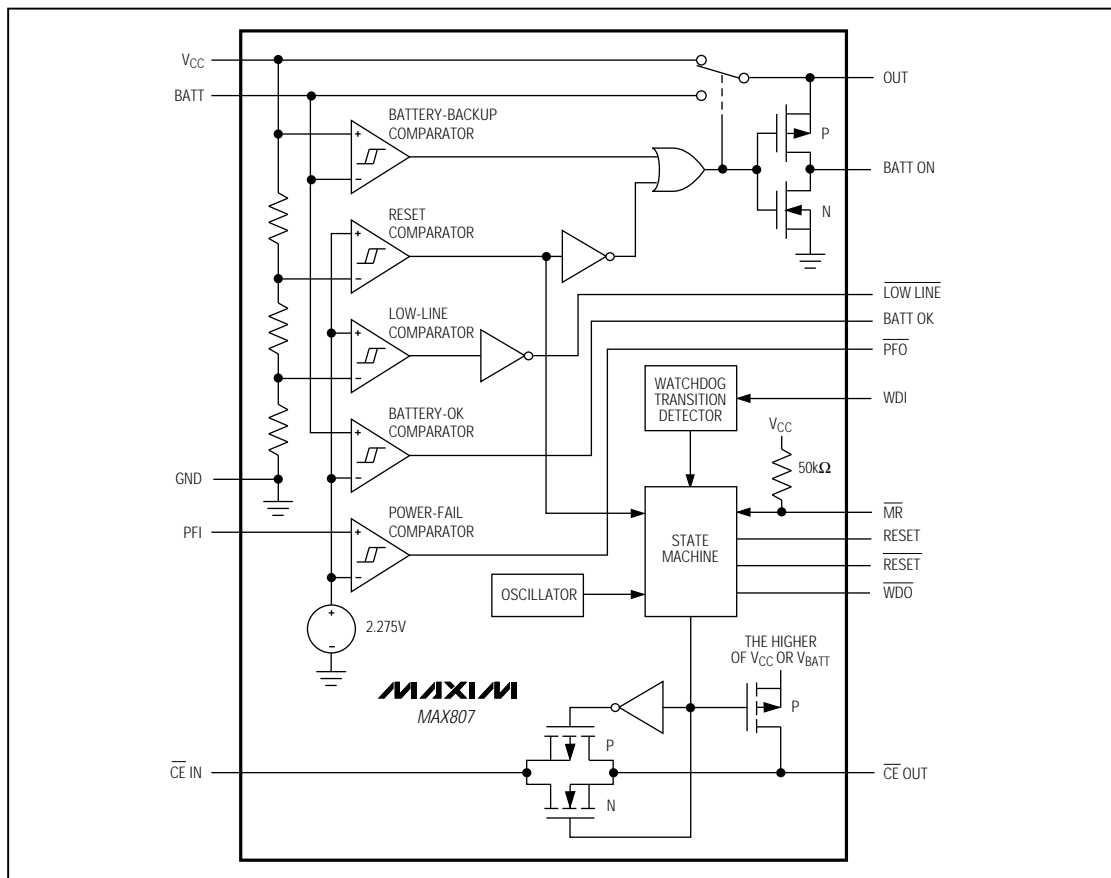

Figure 1. Block Diagram
The MAX807 microprocessor (μ P) supervisory circuit provides power-supply monitoring, backup-battery switchover, and program execution watchdog functions in μ P systems (Figure 1). Use of BiCMOS technology results in an improved 1.5% reset-threshold precision, while keeping supply currents typically below $70\mu\text{A}$. The MAX807 is intended for battery-powered applications that require high reset-threshold precision, allowing a wide power-supply operating range while preventing the system from operating below its specified voltage range.
The MAX807 provides internal gating of chip-enable (CE) signals to prevent erroneous data from corrupting the CMOS RAM in the event of a power failure. During normal operation, the CE gate is enabled and passes all CE transitions. When reset is asserted, this path becomes disabled, preventing erroneous data from corrupting the CMOS RAM. The MAX807 uses a series transmission gate from the Chip-Enable Input ($\overline{CE IN}$) to the Chip-Enable Output ($\overline{CE OUT}$) (Figure 1).